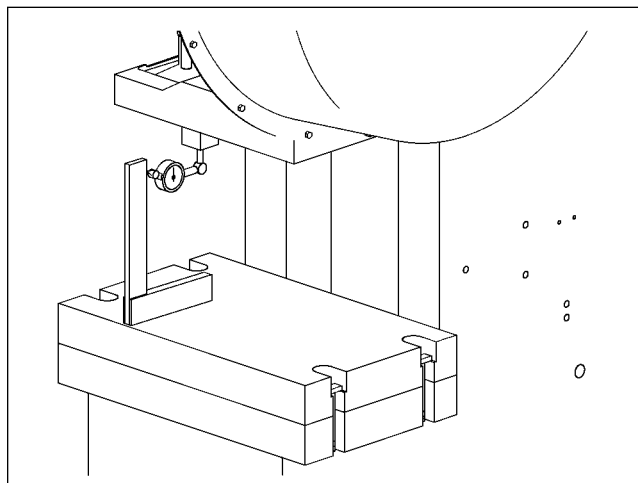

Figure 3F. Checking slide front-to-back vertical angularity.
9. Set base leg of machinists square on bed (or bolster) (clamp if necessary) and position it in a front-to-back plane as shown in Figure 3F.
10. Attach magnetic base dial indicator to the bottom of the slide. Position the dial indicator so that its spindle contact point is perpendicular to, and resting against, the flat inner surface of the square. (See Figure 3F.)